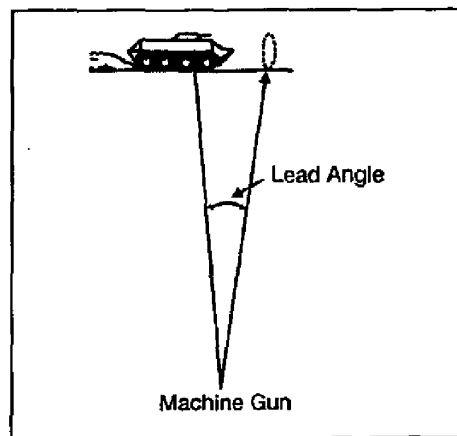

Figure 071-312-3031-7. Moving target engagement
7. Engage a moving target using six- to nine-round bursts (figure 071-312-3031-7).